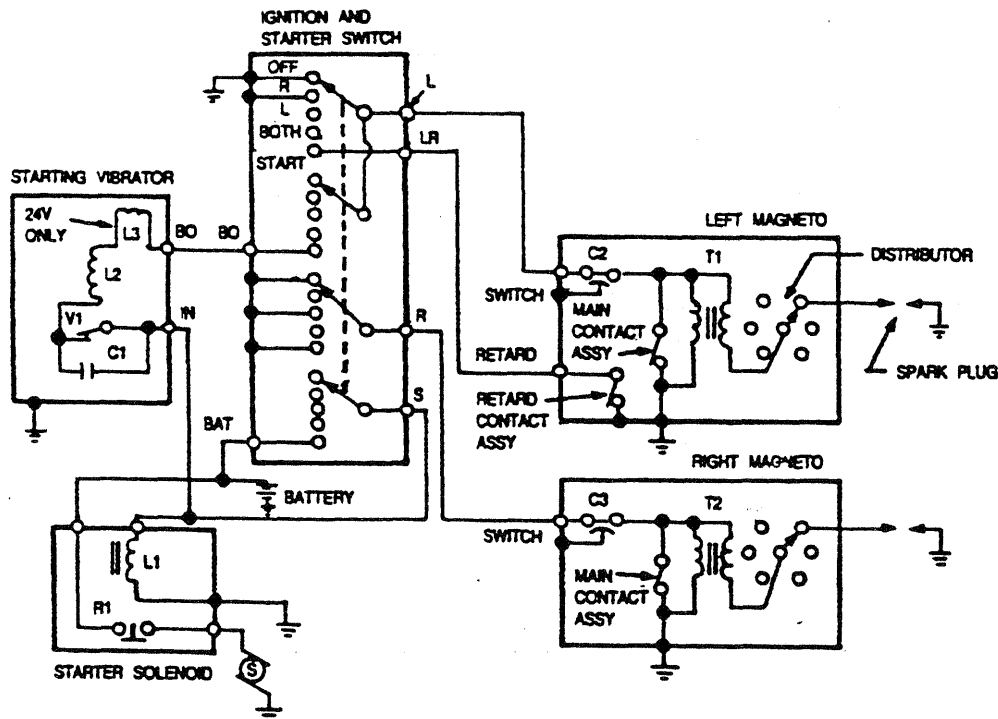

Figure 203. Sample Schematic Diagram of Magneto Circuit and Starting Vibrator
- A. A schematic diagram of the magneto hookup with a starting vibrator is shown in Figure 203. The starting vibrator supplies interrupted battery current to the left magneto and grounds the right magneto. This type of vibrator should be used with one of the TCM combination ignition and starter switches which controls the vibrator current flowing to the retard contact assembly and main contact assembly in the left magneto. In Figure 203, all switches are shown in their normal OFF position. Figure 203 must only be used for following the electrical operation of the magneto circuit, not for installation purposes.
- B. With the combination ignition and starter switch in its "START" position, the right magneto is grounded (refer to Figure 203). Starter solenoid L1 is energized, closing its relay contact R1. Battery current flows through vibrator points V1, coil L2 (and L3 in 24 volt models), through the BO (Booster Output) terminals to the switch, where it is split and flows to both the main and retard contact assemblies of the left magneto to ground. The magnetic field built up in coil L2 causes vibrator points V1 to open. Current flow ceases through coil L2 causing the magnetic